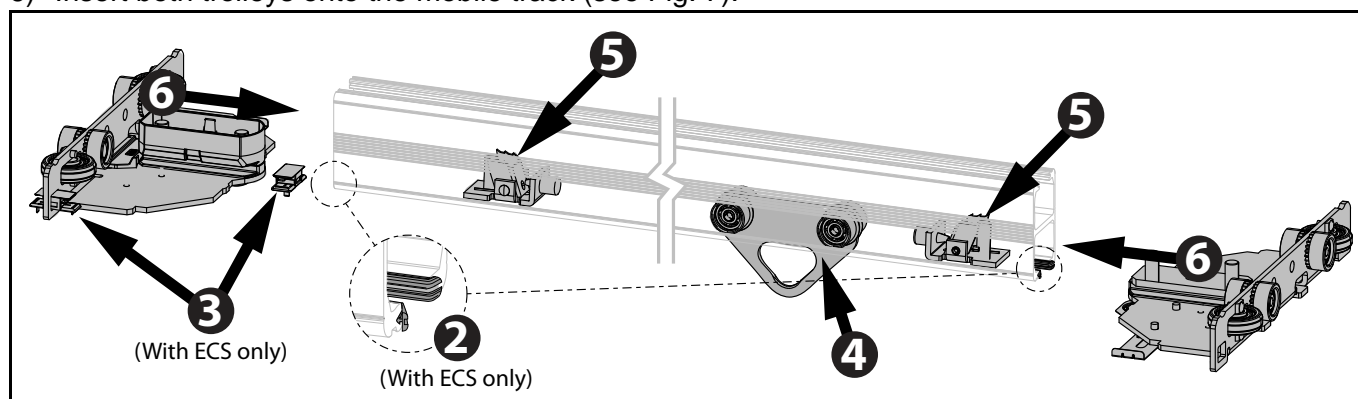

Fig. 7
- 6) Insert both trolleys onto the mobile track (see Fig. 7).